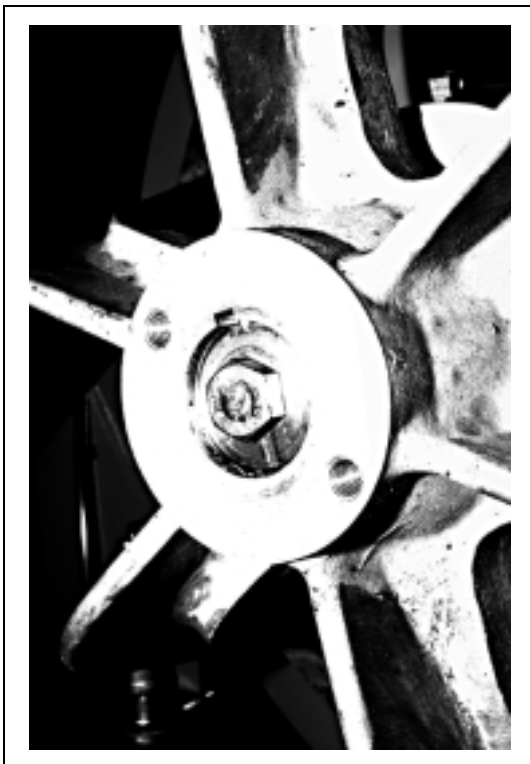
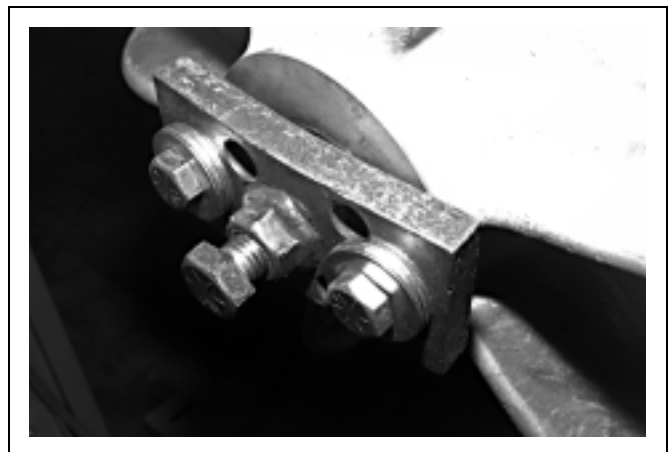

FIGURE 5 (MSSM0285AE)
FIGURE 6 (MSSM0285AE)
4. Remove rear pulley bolts. Thread a bolt into rear of bearing shaft to protect the threads from the pulling fixture bolt (FIGURE 5). Install pulling fixture and remove pulley (FIGURE 6).